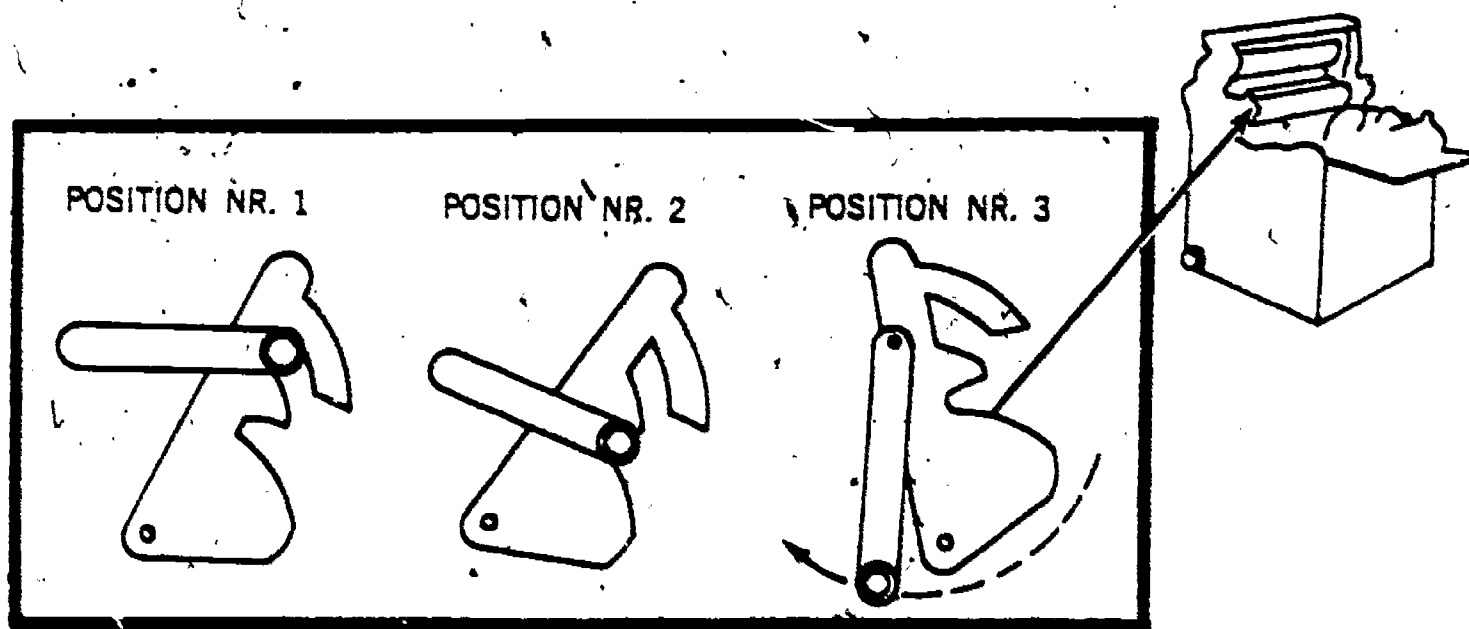
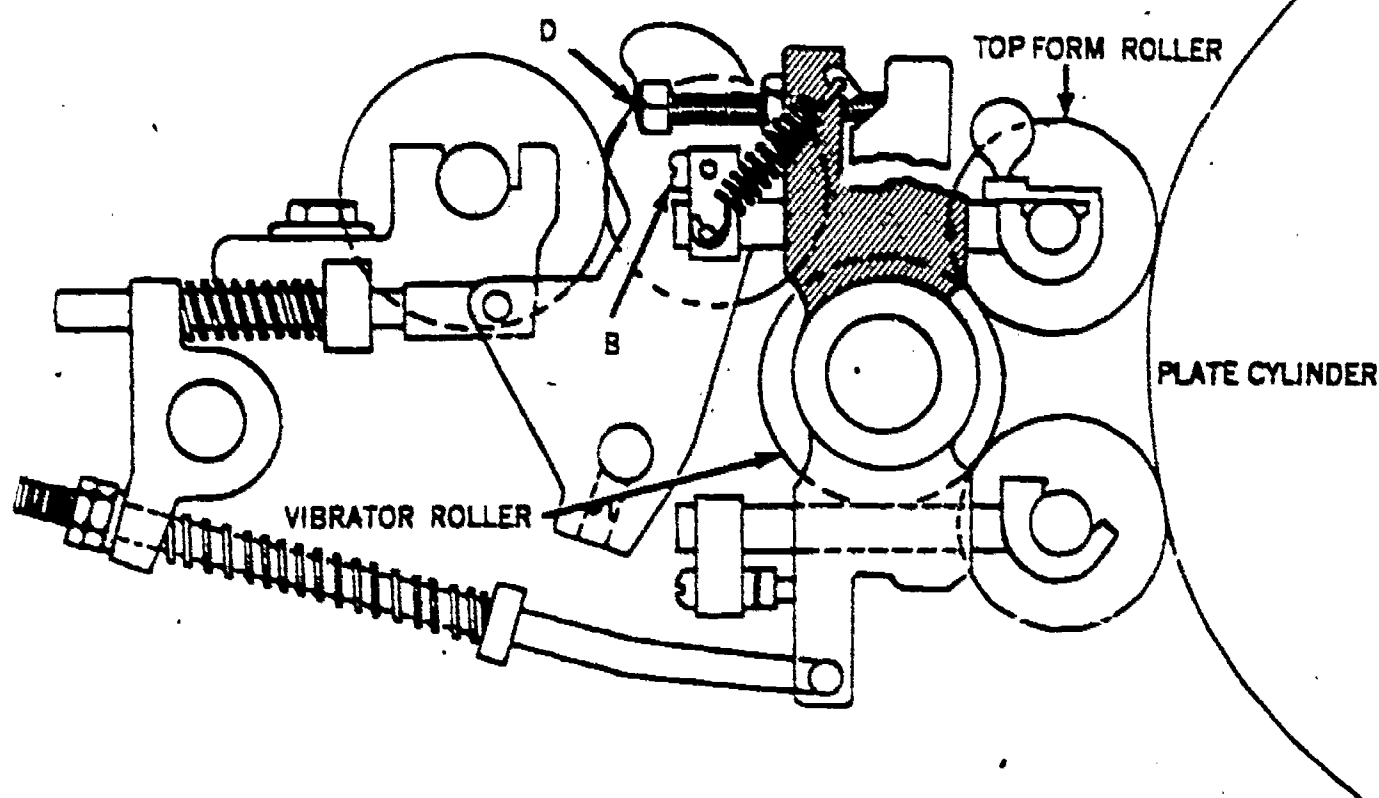

Figure 8-32. Three positions of water motion throwoff handle and latch.
Figure 8-36. Setting and adjusting top form roller (dampening assembly).
Water motion throw-off handle and latch.	Controls the motion of the whole dampening assembly to or away from the plate cylinder (fig. 8-32).
a. *Positioning Entire Dampening Assembly by Means of Different Settings for Water Motion Throwoff Handle and Latch.* The main control for the dampening assembly is the handle and latch mechanism which moves the whole assembly to or from the plate. The three operating positions for the water motion throwoff handle and latch are illustrated in figure 8-32.
(1) In position 1, the dampening assembly is engaged, with the form rollers against the plate. This is the operating position which is used any
1. *Setting to the vibrator.* Feeler strips are inserted between the form roller and the vibrator roller approximately 2 inches in from each end of the roller. Adjustments are made to the vibrator roller by using the screw marked B (fig. 8-36). Turning the screw clockwise decreases the pressure between the vibrator roller and the form roller. Turning the screw counterclockwise increases the pressure between the vibrator roller and the form roller.
roller. The dampening assembly is moved to the number 1 position (fig. 8-32) by using the water motion throw-off handle. Adjustments are made to the plate cylinder by using the square-headed bolts marked D (fig. 8-36). Turning the bolts clockwise decreases the pressure to the plate cylinder while turning counterclockwise increases the pressure between the form roller to the plate.
2. *Setting to the plate.* The dampening assembly is moved into the Number 1 position (fig. 8-32), by using the water motion throw-off